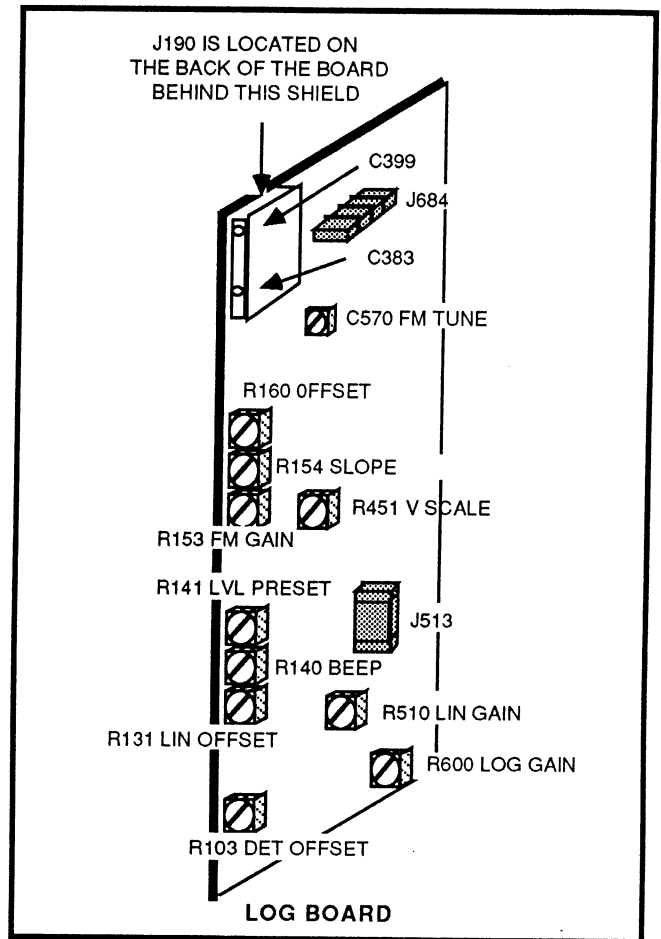

Figure 4-3. Log board adjustment and jumper locations.
- (1) 10 dB and 1 dB Step Attenuators
- (2) Signal Generator
- (3) RF Cable, bnc-to-square SMB
- a. Set R154 (Slope) and R160 (Slope Offset) fully clockwise so they will have no effect on baseline noise in MAX SPAN. See Figure 4-3 for the locations of adjustments.
(1) Signal Generator (10 MHz and 100 MHz)
b. Adjust R140 (Beep Level) on the Log board for desired nominal beep loudness. See Figure 4-3.